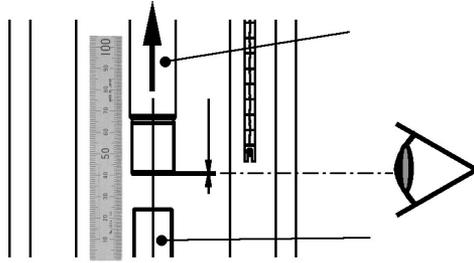

Figure 5
2. Connect manual loading panel tubing to the Top Plate (17).
4. Reconnect manual loading panel tubing from the Top Plate (17) to the Yoke (1), which is integrated into the bottom plate connection.
5. Retract the actuator stem either pneumatically or with a handwheel approximately .1" (2mm) using the visual stroke scale as shown in Figure 5.
2. Connect manual loading panel tubing to the top plate (17).
4. Extend the actuator stem either pneumatically or with a handwheel approximately .1" (2mm) using the visual stroke scale as shown in Figure 5.
5. Assemble the Split Clamp (22).
2. Connect manual loading panel tubing to the yoke (1), which is integrated into the bottom plate connection.
3. Retract the actuator stem either pneumatically or with a handwheel approximately .1" (2mm) using the visual stroke scale as shown in Figure 5.
4. Assemble the Split Clamp (22).